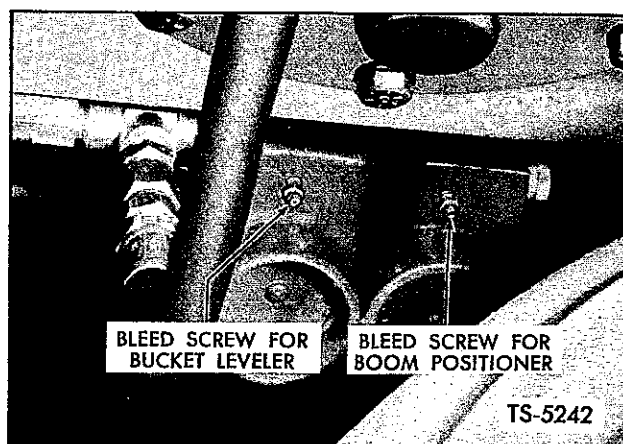

Fig. 15. Bleed Bucket Leveler Lines at Control Valve
3. Bleed master cylinder and lines with pressure tank containing Type "A" Automatic Transmission fluid. Connect tank line to master cylinder fill plug, and crack bleed screw at bucket spool of boom and bucket control valve as shown in Figures 15 and 16.
8. With engine at idle rpm and the bucket in level position, crack bleed screw at main control valve, retightening when all air has been expelled. See Figure 15.
5. With engine at idle rpm and the bucket in level position, crack bleed screw at main control valve, retightening when all air has been expelled. See Figure 15.